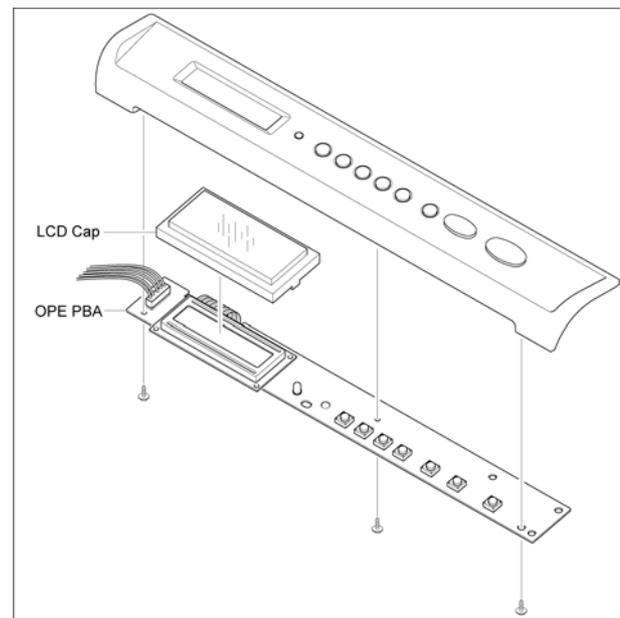

Figure 3
3. Remove 3 screws, then disconnect CN 1 from the OPE PBA. Remove the OPE PBA, Figure 3..